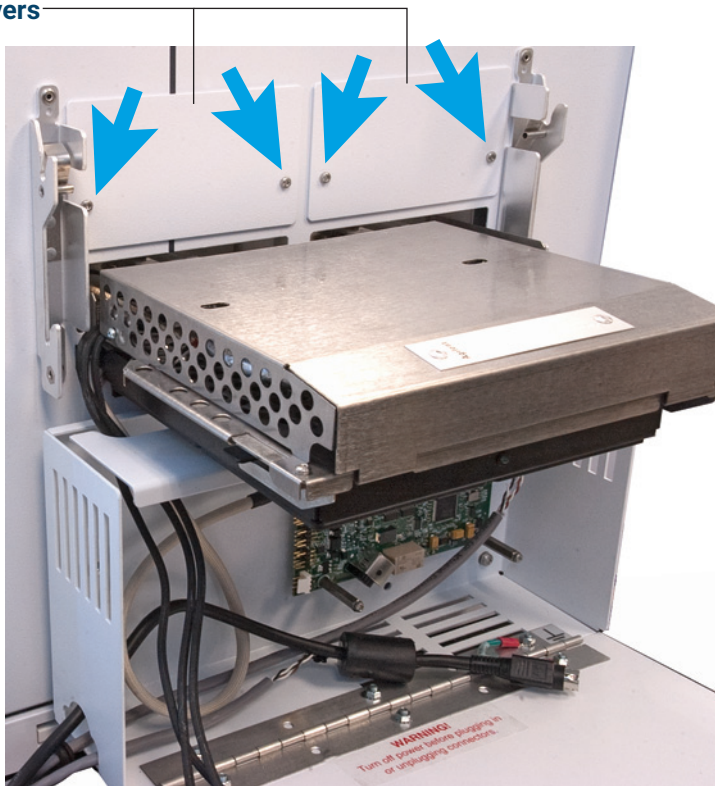

Figure 44. Slot covers. Two top slot covers shown above installed 5-inch column module.
- 1 Remove the slot cover using a T-10 Torx driver to remove the two screws. See Figure 44.